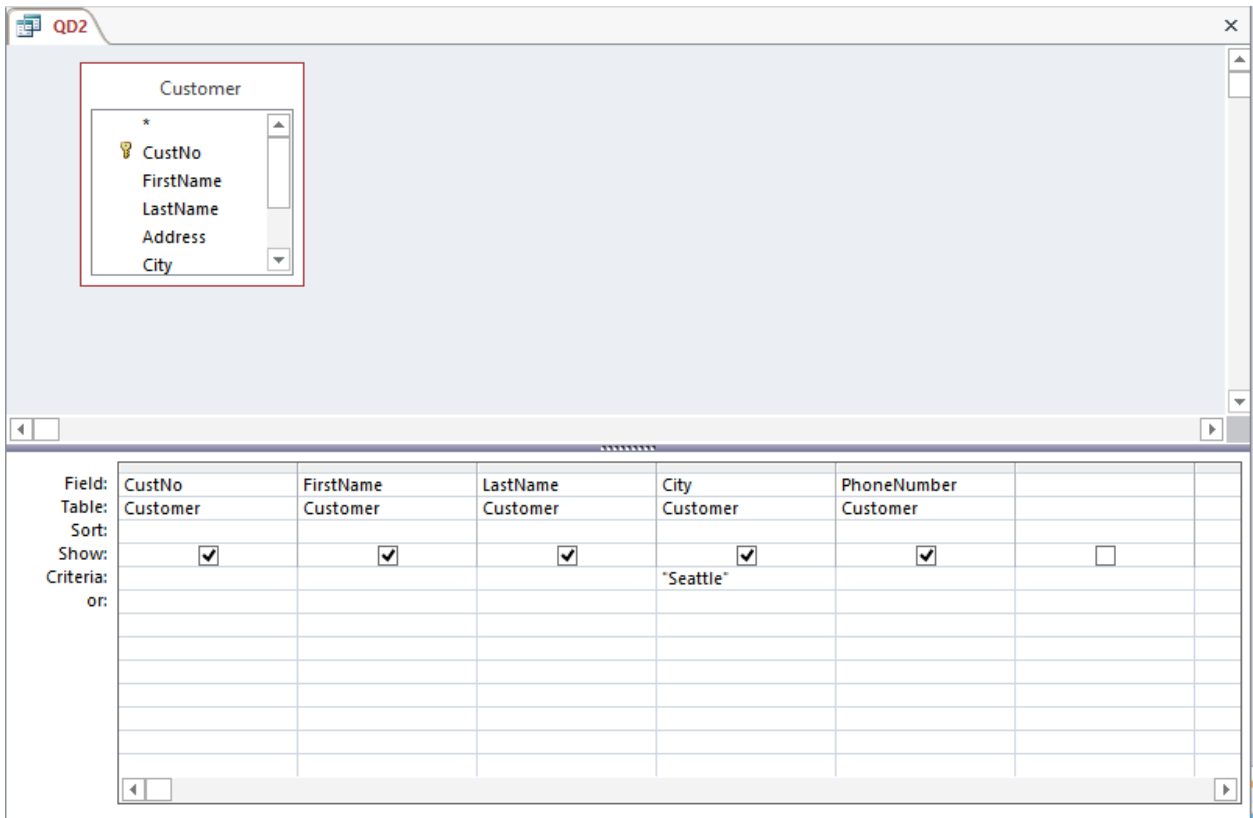

Figure 15: “QD2” with the “Seattle” Criterion
5. Enter a Condition: Next you will insert a condition to limit the list to only customers in Seattle. To accomplish this task, type in the *City* column and the *Criteria* row “Seattle”. Be sure to enclose it in double quotes (see Figure 15).